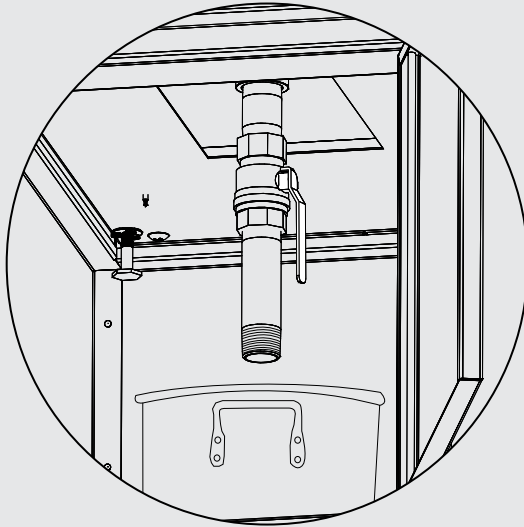

Figure 14
3. Open the ball valve and let the used oil drain out. **(Figure 14)**